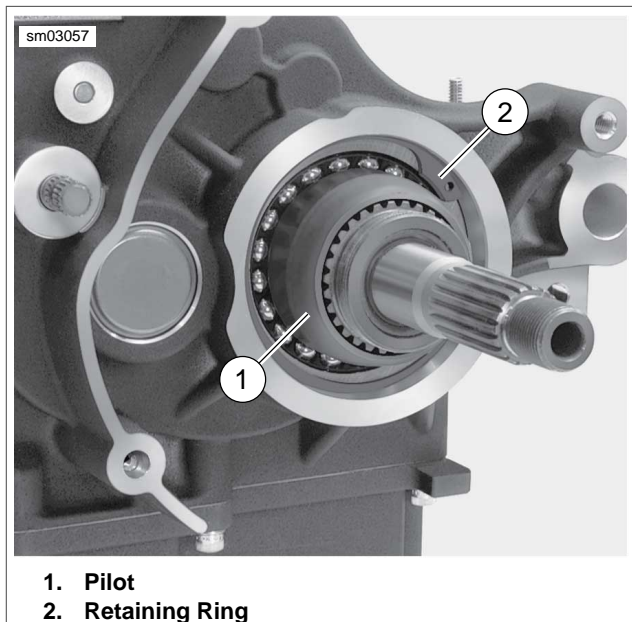

Figure 7-47. Install Pilot (Part No. HD-47856-2)
3. See Figure 7-47. Install **new** retaining ring (2).
1. See Figure 7-47. From outside of crankcase, install PILOT (Part No. HD-47856-2) over end of main drive gear bearing inner race.